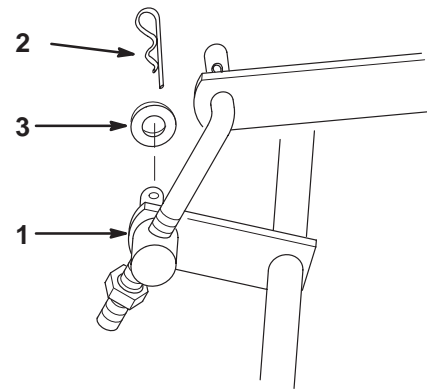

Figure 3
1. Place adjustable link trunnion into rear wheel shaft bracket and secure with hairpin cotter and washer (Fig. 3).